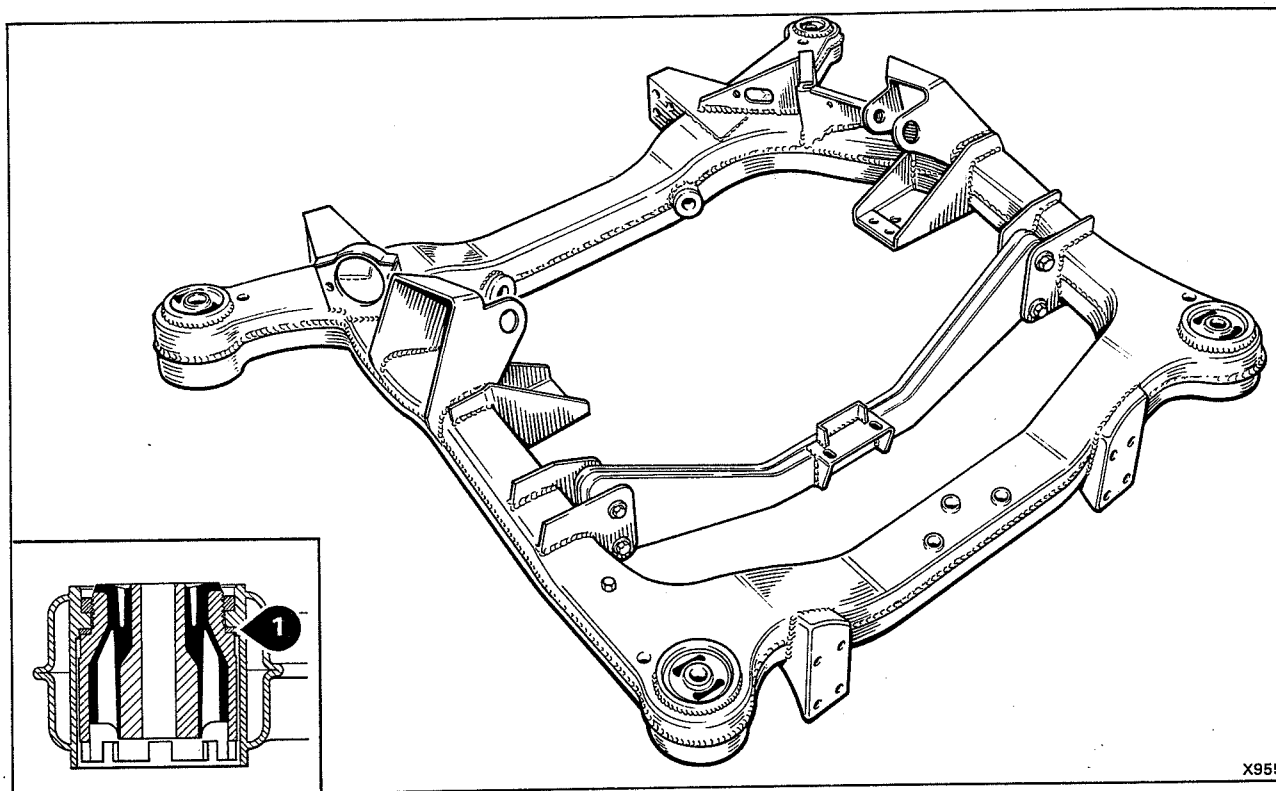

Fig. H7 Front sub-frame assembly
3. Insert the mount through the sub-frame and fit the lock-ring into position in the upper well. Screw the mount into the lock-ring. Adjust the lock-ring such that, when the rubber mount is torque tightened to the figure quoted in Chapter P, the slots in the moulded rubber are at right angles to the centre line of the sub-frame (see Fig. H7).